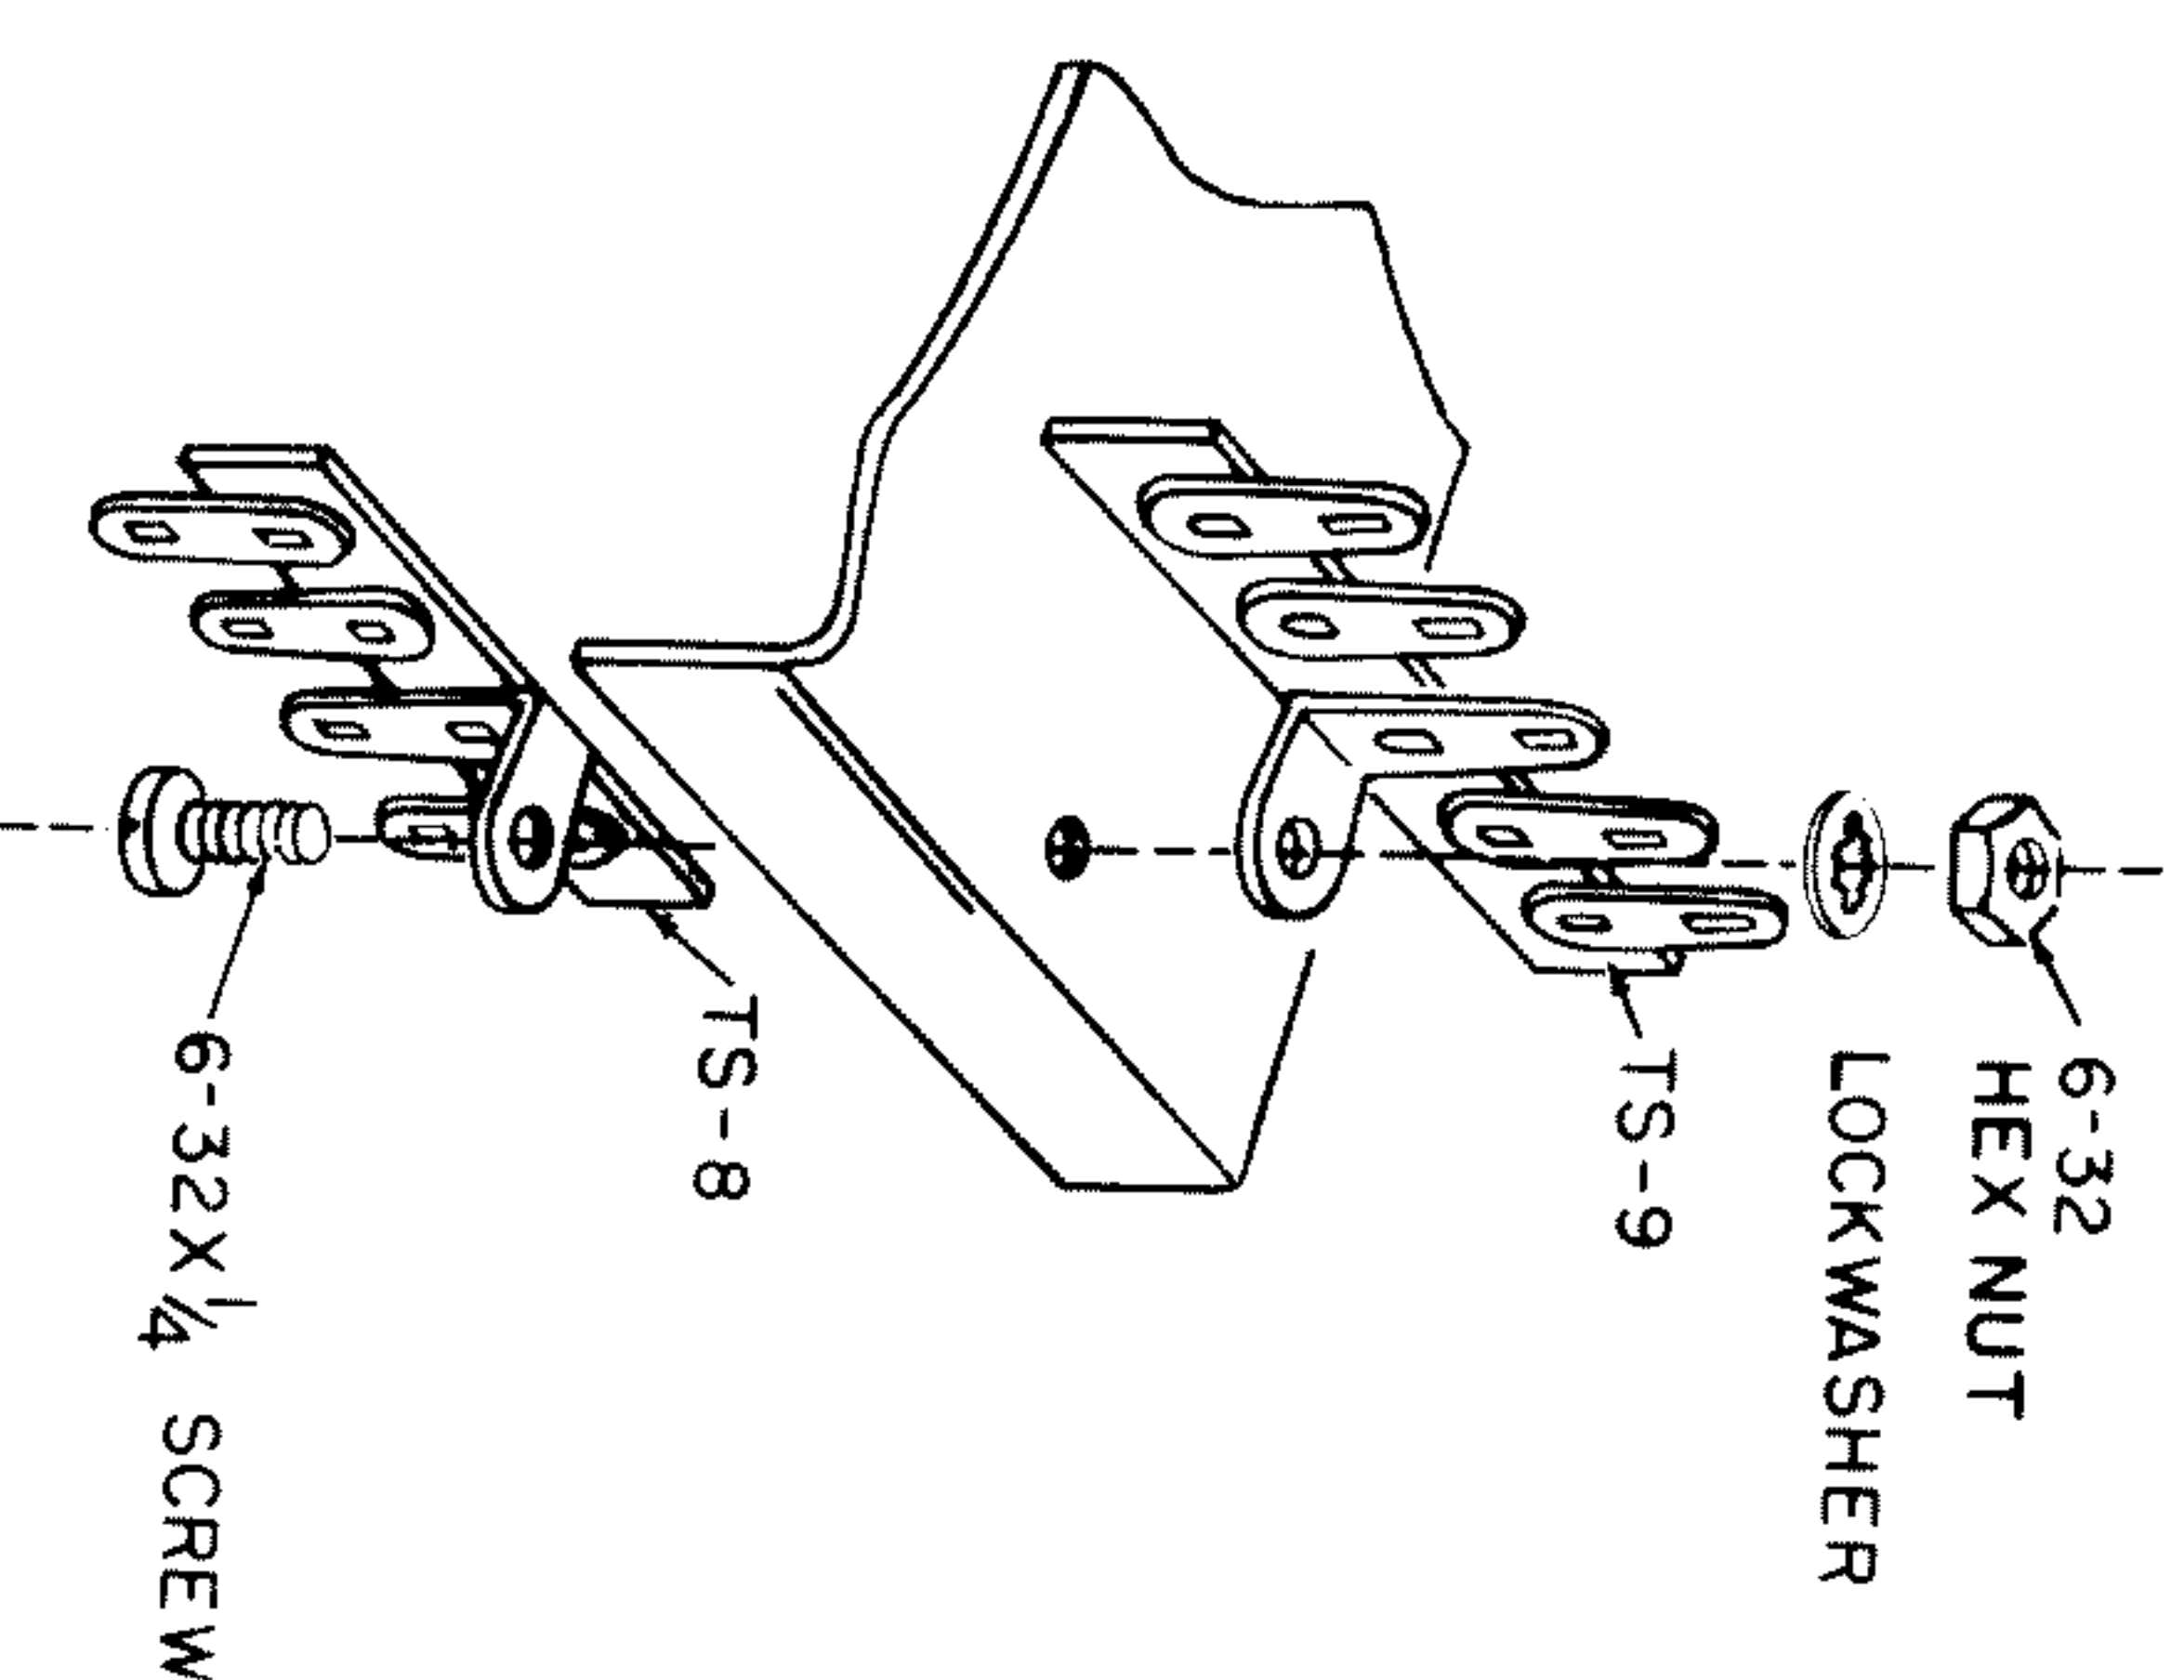

FIGURE 5
- ☒ TS-8, 4-terminal strip and TS-9, 5-terminal strip. See Figure 5. Position TS-9 on top of the chassis and TS-8 on the bottom. Fasten these parts with a 6-32 $\times$ $\frac{1}{4}$ " screw, lockwasher, and nut.